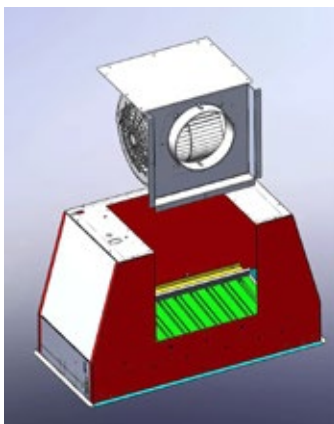
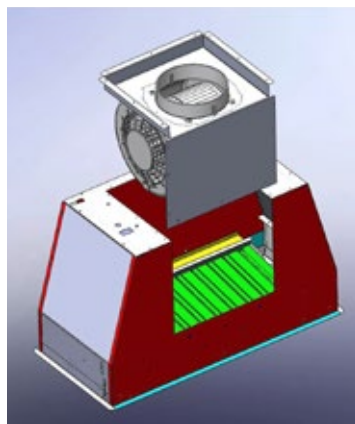

Fig.8a
Fig.8b
- All the models with one motor can be rear vented; if the customer wants to use this option, it is necessary to remove the 18 10mm screws from the motor group support. Then take the metal support with motor included out (Fig.8a). Turn the motor to have the air outlet on the rear side (Fig.8b) and fix the 10mm screws previously removed.